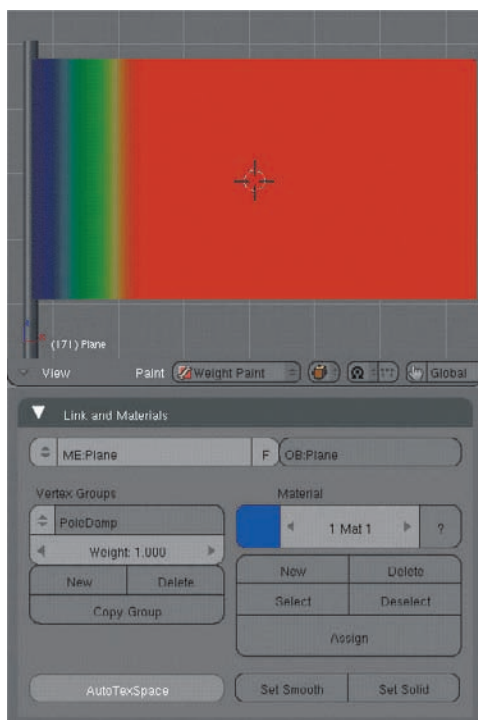

Figure 1.63
3. Create a vertex group for the flag mesh by clicking New in the VertexGroups buttons, and name the vertex group **PoleDamp**. In a moment, you'll use this vertex group to determine the intensity of the displacement modifier that will produce the flag's ripples. Because the flag should be fixed at the pole, the intensity of the ripples will be zero at the pole. You can assign the vertex group weights by hand in Edit mode, or you can do this by weight painting, as shown in Figure 1.63. The part of the flag that meets the pole should be weighted 0, and most of the flag should be weighted 1. The yellow and green transition area in the figure indicates where the weight should be graduated.